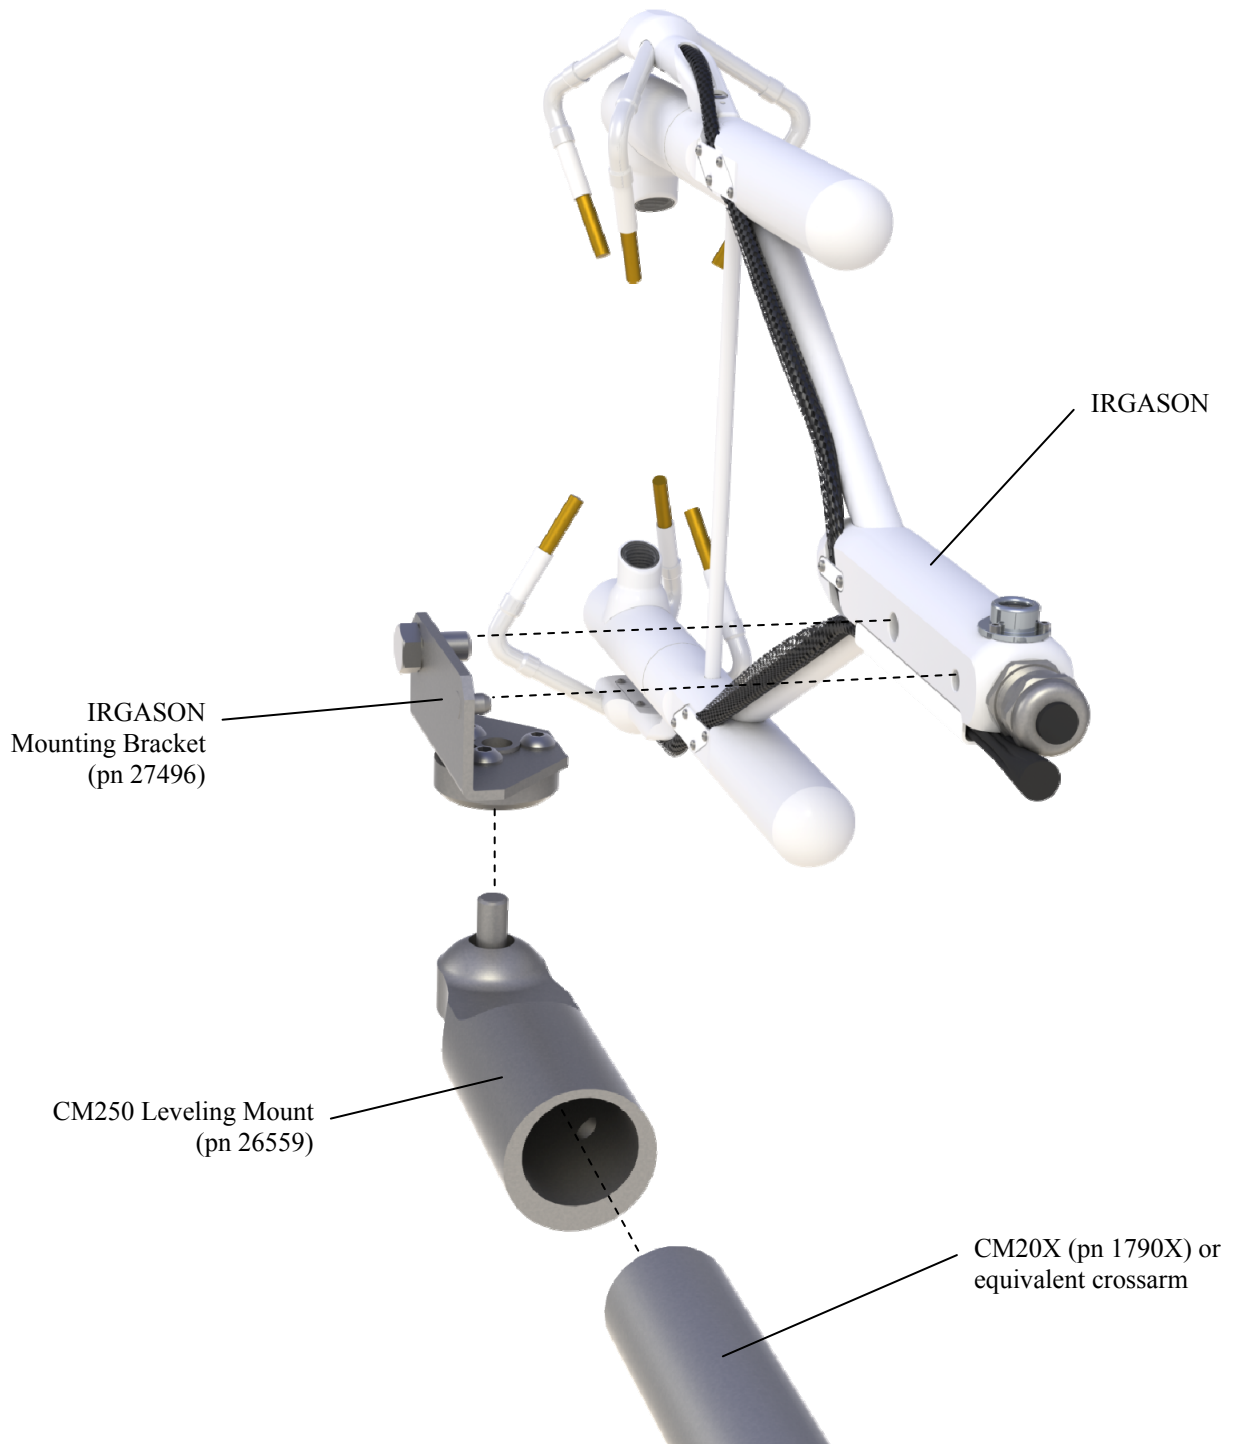

FIGURE 6-1. Exploded view of mounting the IRGASON
The IRGASON is supplied with mounting hardware to attach it to the end of a horizontal pipe with a diameter of 1.31 in., such as the Campbell Scientific CM202, CM204, or CM206 crossarm. The following steps describe the normal mounting procedure. Refer to FIGURE 6-1.
3. Bolt the IRGASON mounting bracket (pn 27496) to the CM250 Leveling Mount (pn 26559) (see FIGURE 6-1).